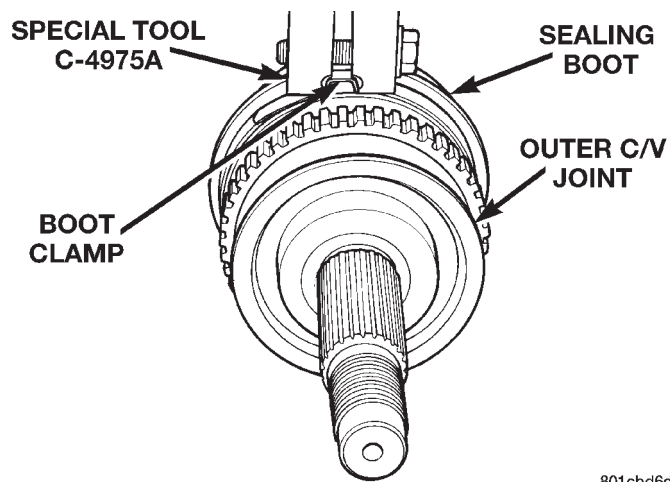

Fig. 9 Crimping Tool Installed On Large Boot Clamp
(8) Clamp large sealing boot clamp onto axle shaft using Crimper C-4975-A. Place crimping tool C-4975-A over bridge of clamp (Fig. 9).
(9) Tighten nut on crimping tool C-4975-A until jaws on tool are closed completely together, face to face.